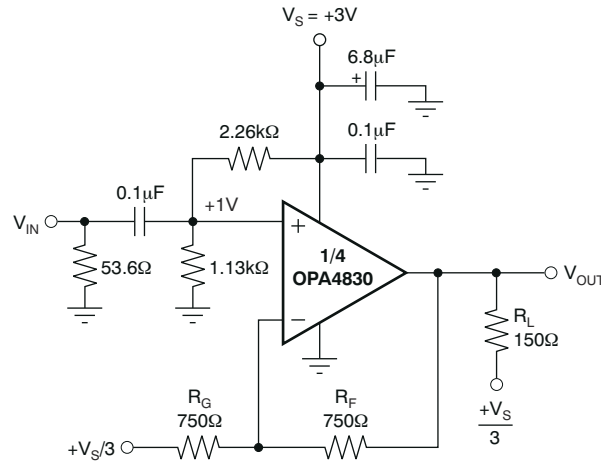
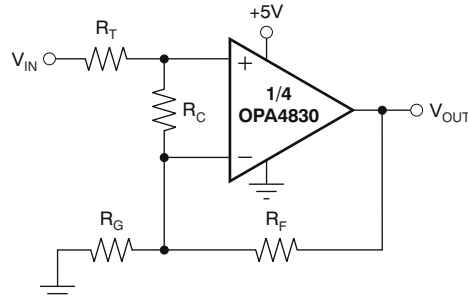

Figure 8-2. AC-Coupled, $G = +2V/V$, +3V Single-Supply Specification and Test Circuit
Figure 8-7. Compensated Noninverting Amplifier
at $T_A = 25^\circ C$, $G = +2V/V$, and $R_L = 150\Omega$ to $V_S/3$ (unless otherwise noted); see also Figure 8-2
Figure 8-2 shows the ac-coupled, gain of +2V/V configuration used for the +3V electrical and typical characteristics. For test purposes, the input impedance is set to 50Ω with a resistor to ground. Voltage swings reported in the *Electrical Characteristics* $V_S = 3V$ are taken directly at the input and output pins. For the circuit of Figure 8-2, the total effective load on the output at high frequencies is $150\Omega \parallel 1500\Omega$. The 1.13kΩ and 2.26kΩ resistors at the noninverting input provide the common-mode bias voltage. The parallel combination equals the dc resistance at the inverting input (R_F), reducing the dc output offset as a result of input bias current.
Figure 8-7 shows a noninverting amplifier that reduces peaking at low gains. The resistor R_C compensates the OPA4830 to have higher noise gain (NG), which reduces the ac response peaking (typically 5dB at $G = +1V/V$ without R_C) without changing the dc gain. V_{IN} needs to be a low-impedance source, such as an op amp. The resistor values are low to reduce noise. Using both R_T and R_F helps minimize the impact of parasitic impedance.
Frequency response in a gain of $+2V/V$ can be modified to achieve exceptional flatness simply by increasing the noise gain to $3V/V$. One way to do this, without affecting the $+2V/V$ signal gain, is to add a $2.55k\Omega$ resistor across the two inputs (see Figure 8-7). A similar technique can be used to reduce peaking in unity-gain (voltage follower) applications. For example, by using a 750Ω feedback resistor along with a 750Ω resistor across the two op amp inputs, the voltage follower response is similar to the gain of $+2V/V$ response of Figure 8-2. Further reducing the value of the resistor across the op amp inputs further dampens the frequency response because of increased noise gain. The OPA4830 exhibits minimal bandwidth reduction going to single-supply ($+5V$) operation as compared with $\pm 5V$. This minimal reduction is because the internal bias control circuitry retains nearly constant quiescent current as the total supply voltage between the supply pins changes.
The criterion for setting this R_S resistor is a maximum bandwidth, flat frequency response at the load. For a gain of +2, the frequency response at the output pin is already slightly peaked without the capacitive load, requiring relatively high values of R_S to flatten the response at the load. Increasing the noise gain also reduces the peaking (see Figure 8-7).